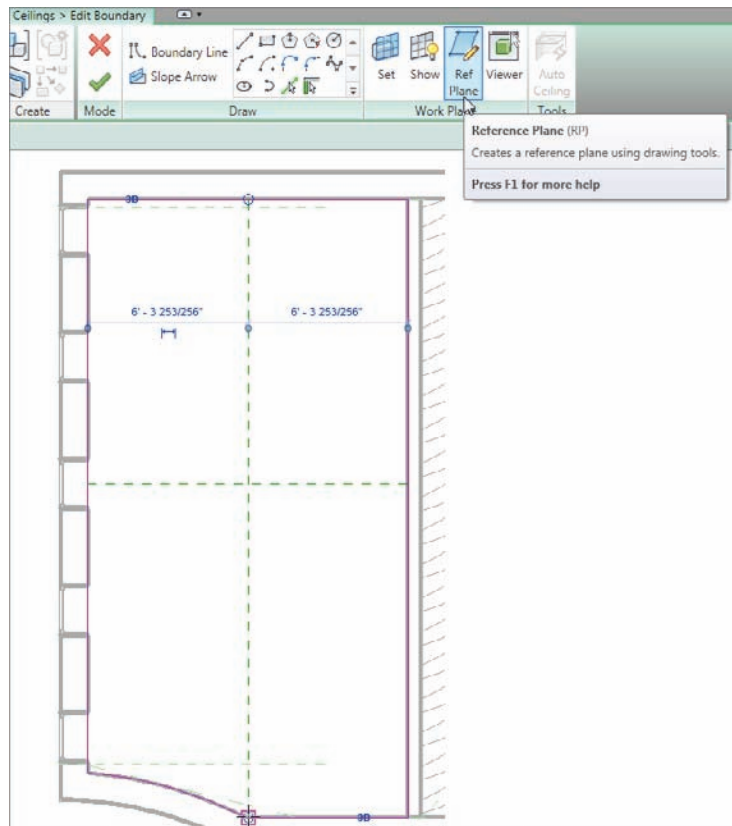

FIGURE 9.24 Drawing two reference planes to create a center intersection
5. Click the Ref Plane button on the Work Plane panel, as shown in Figure 9.24.
6. Draw two reference planes, as shown in Figure 9.24. Be sure to snap to the midpoints of the magenta sketch lines.